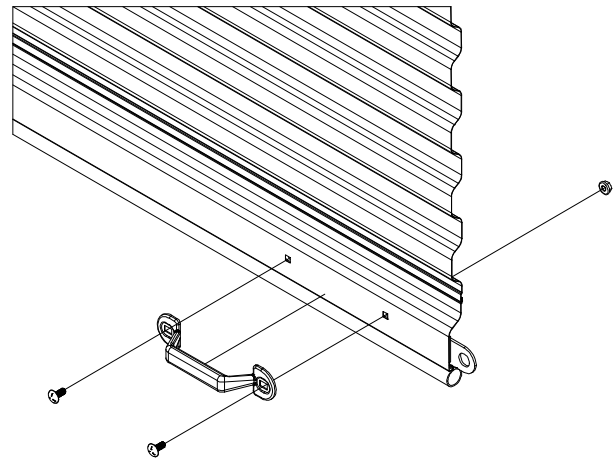

FIGURE 22:
- Install Handle(s) on outside of Bottom Bar using $\frac{1}{4}$ " - 20 x $\frac{5}{8}$ " Carriage Bolts and Nuts. See Figure 22.
MANUAL ADJUSTMENTS OF SPRING TENSION MAY BE REQUIRED. ADJUSTMENTS ARE TO BE MADE USING $\frac{3}{8}$ " DIAMETER WINDING BAR. WHEN MAKING ADJUSTMENTS, ENSURE TENSIONER PAWL IS FULLY ENGAGED WITH TENSIONER RATCHET WHEEL TOOTH BEFORE REMOVING WINDING BAR FROM IT. SEE FIGURE 22 FOR VISUAL REFERENCE